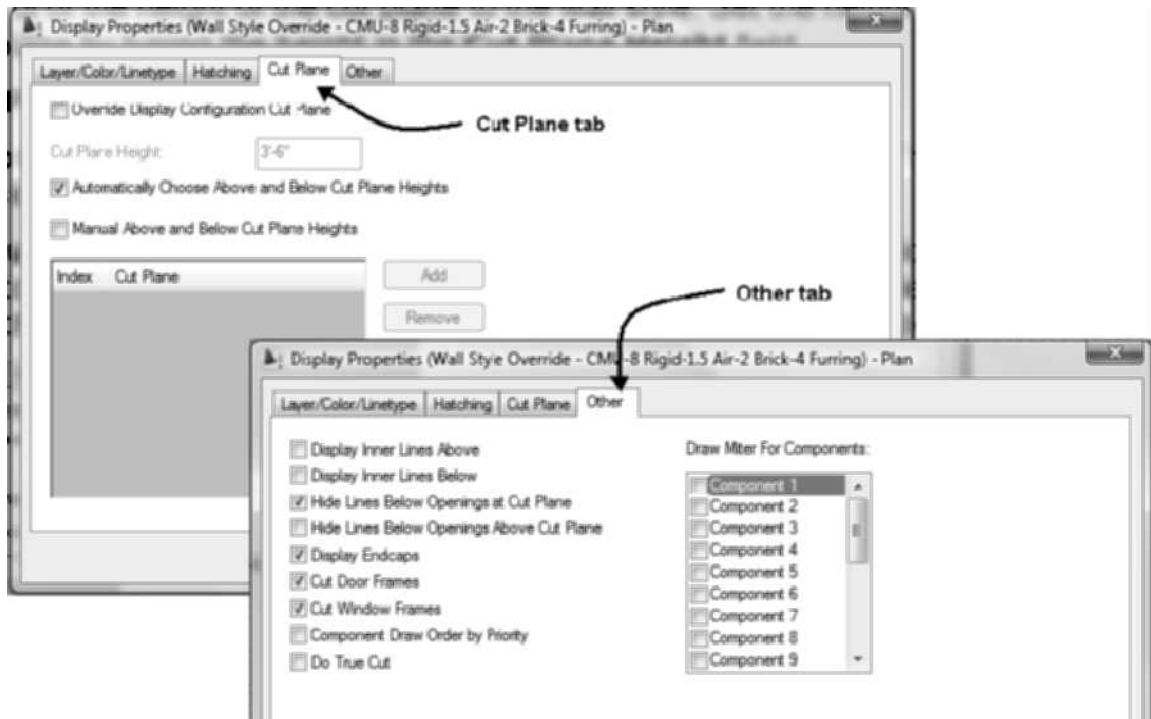

FIGURE 3.30 *Cut Plane and Other tabs for Display Properties*
54. The Cut Plane tab shown in Figure 3.30 allows you to set the cut plane height for the wall style. Cut plane elevations can be defined for the display configuration in the Display Manager or within the wall style. Since the check box is clear, the wall style will be displayed with the cut plane defined by the display configuration settings.
55. Choose the Other tab. The Other tab, shown in Figure 3.30, allows you to control the display of lines relative to the cutting plane. This tab allows you additional control of the wall components based upon their position relative to the cutting plane. The checkboxes turn on the visibility of openings, door frames, window frames, and inner wall lines that are cut by the cutting plane. Miter lines can also be checked for each of the wall components.
57. The content of the Other tab shown in Figure 3.30 can be displayed from Display tab of the Properties palette. Verify that wall 2 is selected, and choose the Display tab of the Properties palette. Choose the Additional properties button shown in Figure 3.32 to display the Wall Additional Properties dialog. Choose OK to dismiss the dialog box.